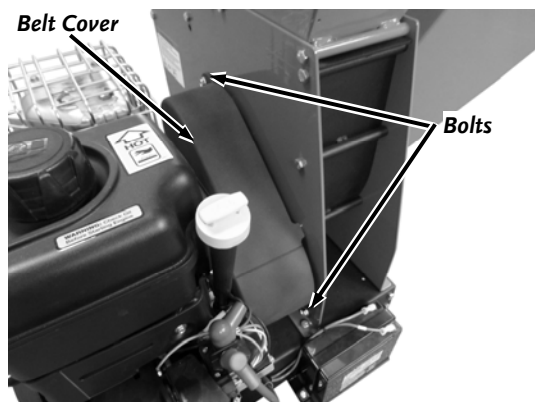

Figure 15
1. Remove the two Bolts and Washers securing the Belt Cover using a 1/2" Wrench (**Figure 15**). Remove the Belt Cover.